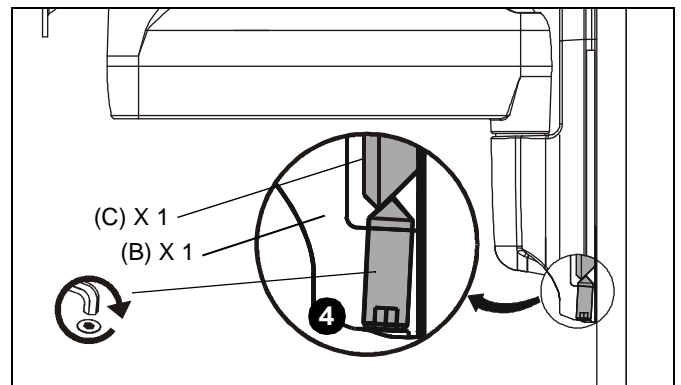

Figure 3
4. Tighten set screw using 5/32" hex key (E). (See Figure 3)
CAUTION: IMPROPER INSTALLATION CAN LEAD TO DISPLAY FALLING CAUSING SERIOUS PERSONAL INJURY OR DAMAGE TO EQUIPMENT! Make sure set screw engages back side of mounting dish on OFBU bracket (C). (See Figure 3)